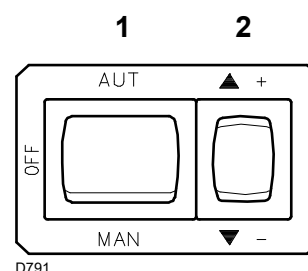
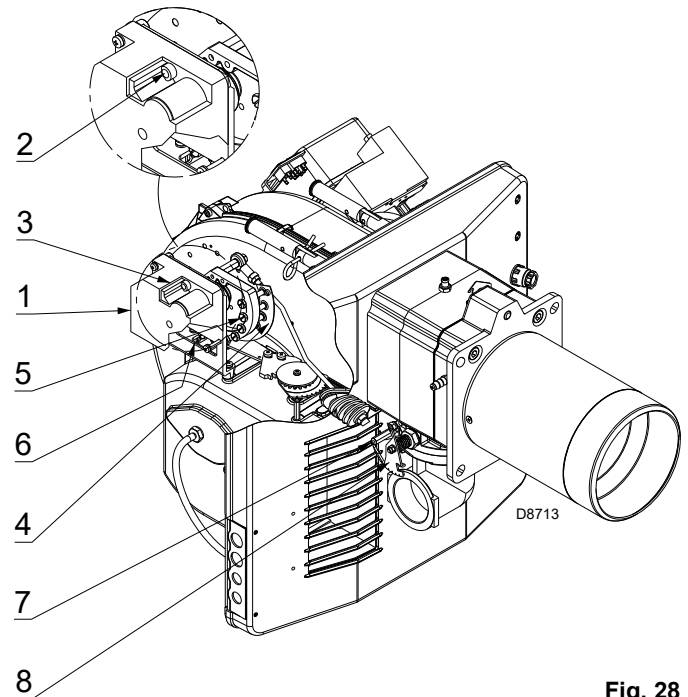
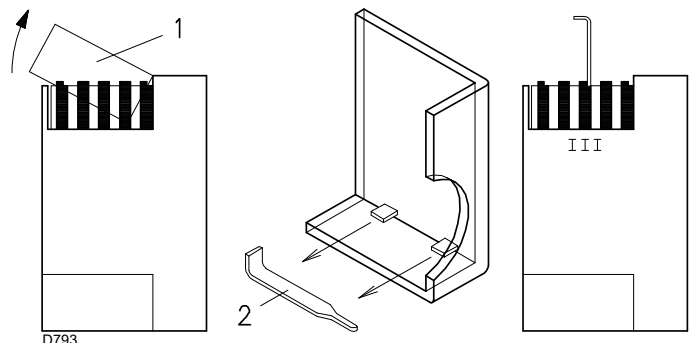

Fig. 27
Fig. 28
Fig. 29
Close the thermostats/pressure switches and turn the switch of Fig. 27 to position "MAN".
Now press the button 2)(Fig. 27) "output increase", and keep it pressed until the servomotor has opened the air damper and the gas butterfly valve at 90°.
Progressively adjust the end profile of cam 4)(Fig. 28) by turning the cam adjustment screws as they are visible through the access opening 6 (Fig. 28).
Press the button 2 (Fig. 27) "output reduction", and keep it pressed until the servomotor has closed the air damper and the gas butterfly valve at 15° (adjustment made in the factory).
- If it is necessary to reduce it, reduce slightly the angle of cam III (Fig. 29) with small, regular movements, i.e. bring it from an angle of 15° to 13° - 11°....
- If it is necessary to increase it, press slightly the button "output increase" 2)(Fig. 27) (open by 10-15° the gas butterfly valve), increase the cam III angle (Fig. 29) with small, regular movements, i.e. bring it from an angle of 15° a 17° - 19°....
If it is necessary to adjust cam III, remove the cover 1)(Fig. 29), inserted with a trigger catch, as indicated in Fig. 29, extract the special key 2)(Fig. 29) from inside, and insert it in the notch of cam III.
Progressively adjust the end profile of cam 4)(Fig. 28) by turning the cam adjustment screws as they are visible through the access opening 6(Fig. 28).
Press the key 2)(Fig. 27) "output increase" a little so that a new screw 5)(Fig. 28) appears in the opening 6)(Fig. 28), adjust it until optimal combustion is obtained. Proceed in the same way with the other screws.
Switch the burner off with switch 1)(Fig. 27), OFF position. Release the adjustable profile cam by setting the servomotor slot 2)(Fig. 28) in a vertical position and check several times that by rotating the cam forwards and backwards by hand, the movement